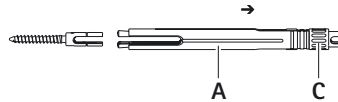

Fig. 7
- Completely remove clamping sleeve 2, see Fig. 7.